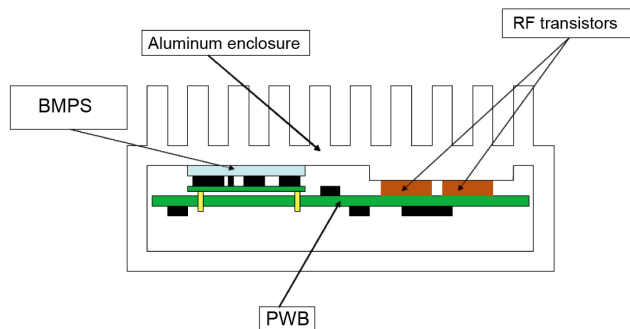

Figure 1 - Sealed box application example
Classic thermal current derating or thermal resistance characteristics are not enough to describe the thermal properties of board mounted power supplies, BMPS, used in sealed box applications. Sealed box cooling conditions are often encountered in applications such as radio communication equipment e.g. RFPA (Radio Frequency Power Amplifiers). Cooling in a sealed box application is achieved mainly by conduction from the BMPS baseplate to the enclosure which functions as a heatsink or “cold wall”, often not only for the BMPS but also for other heat dissipating devices like radio frequency (RF) transistors. Figure 1 presents a typical example of sealed box applications.